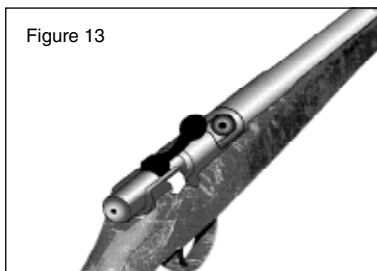

Figure 13
1. Cycle the Bolt Handle to the open and back position. Then, as per arrow "A" press down on the bolt handle (Figure 13).